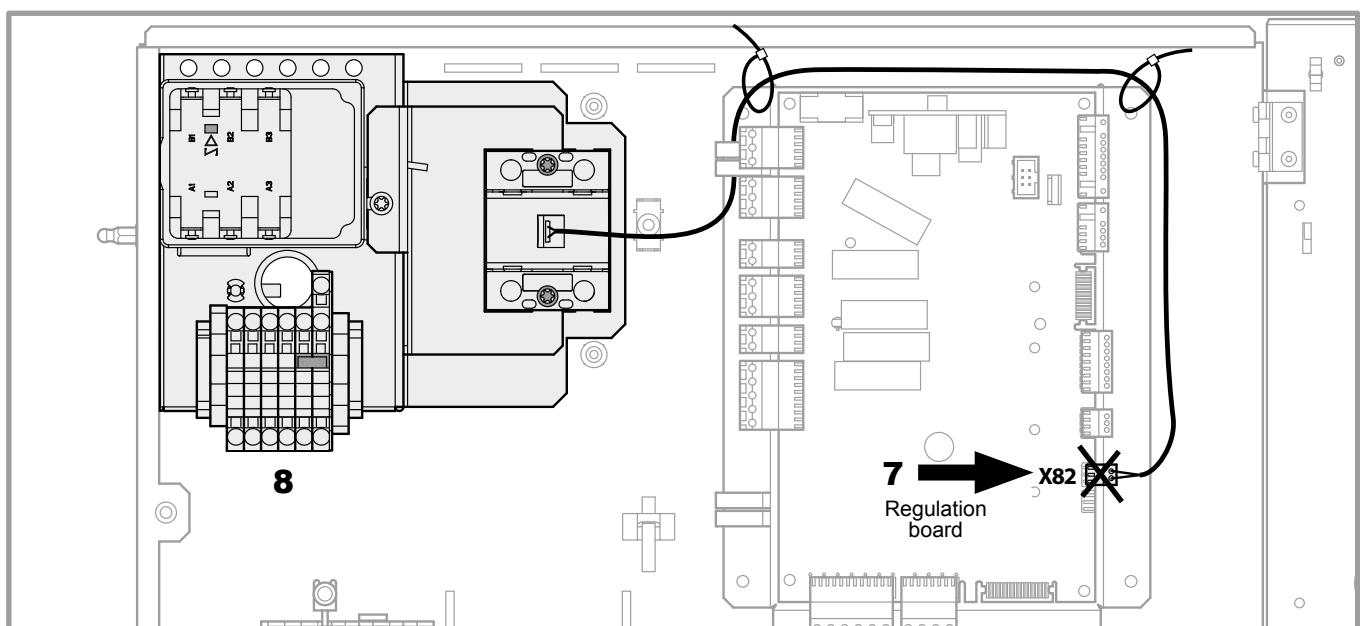

figure 9 - Disconnection of the 3-phase electrical back-up
- **7** - Disconnect the **X82** connector (3-phase electrical back-up, see figure 9).